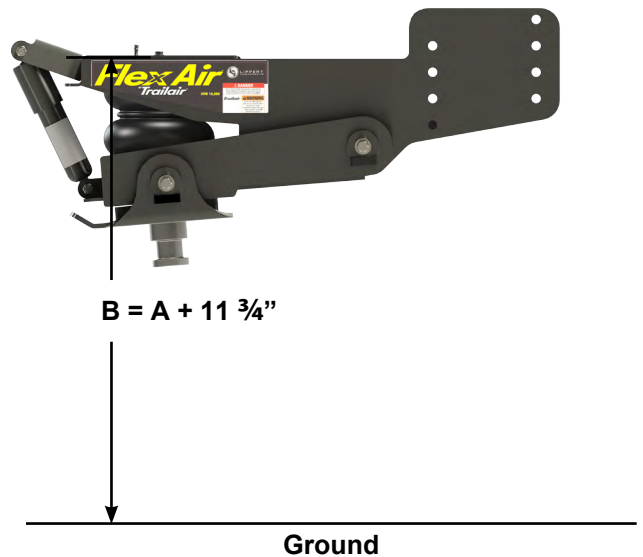

Fig.3
6. Add 11 3/4" to dimension A. When installing the new pin box, measure from the ground up to the flat plate of the upper jaw of the pin box. Once the new pin box is aligned, that measurement should be equal to the measurement taken in step 2, plus 11 3/4" (Dimension B, Fig.3).